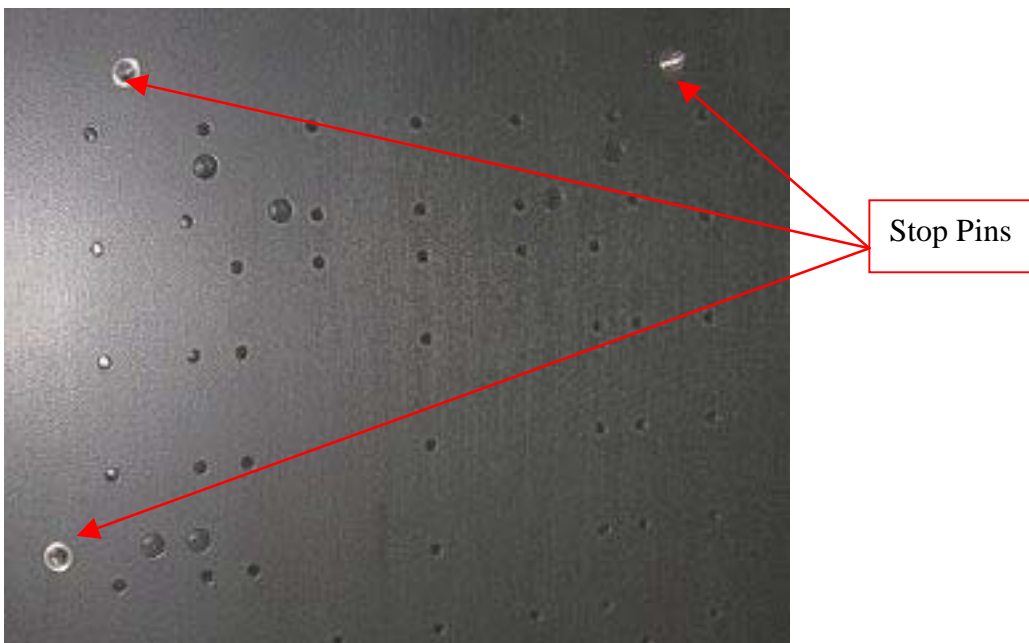

Figure 2-19: Close up of "stop" pins for 4"/5" mask chuck
- ❖ **System:** Place the substrate on the chuck placing it against the "stop" pins (figure 2-19).